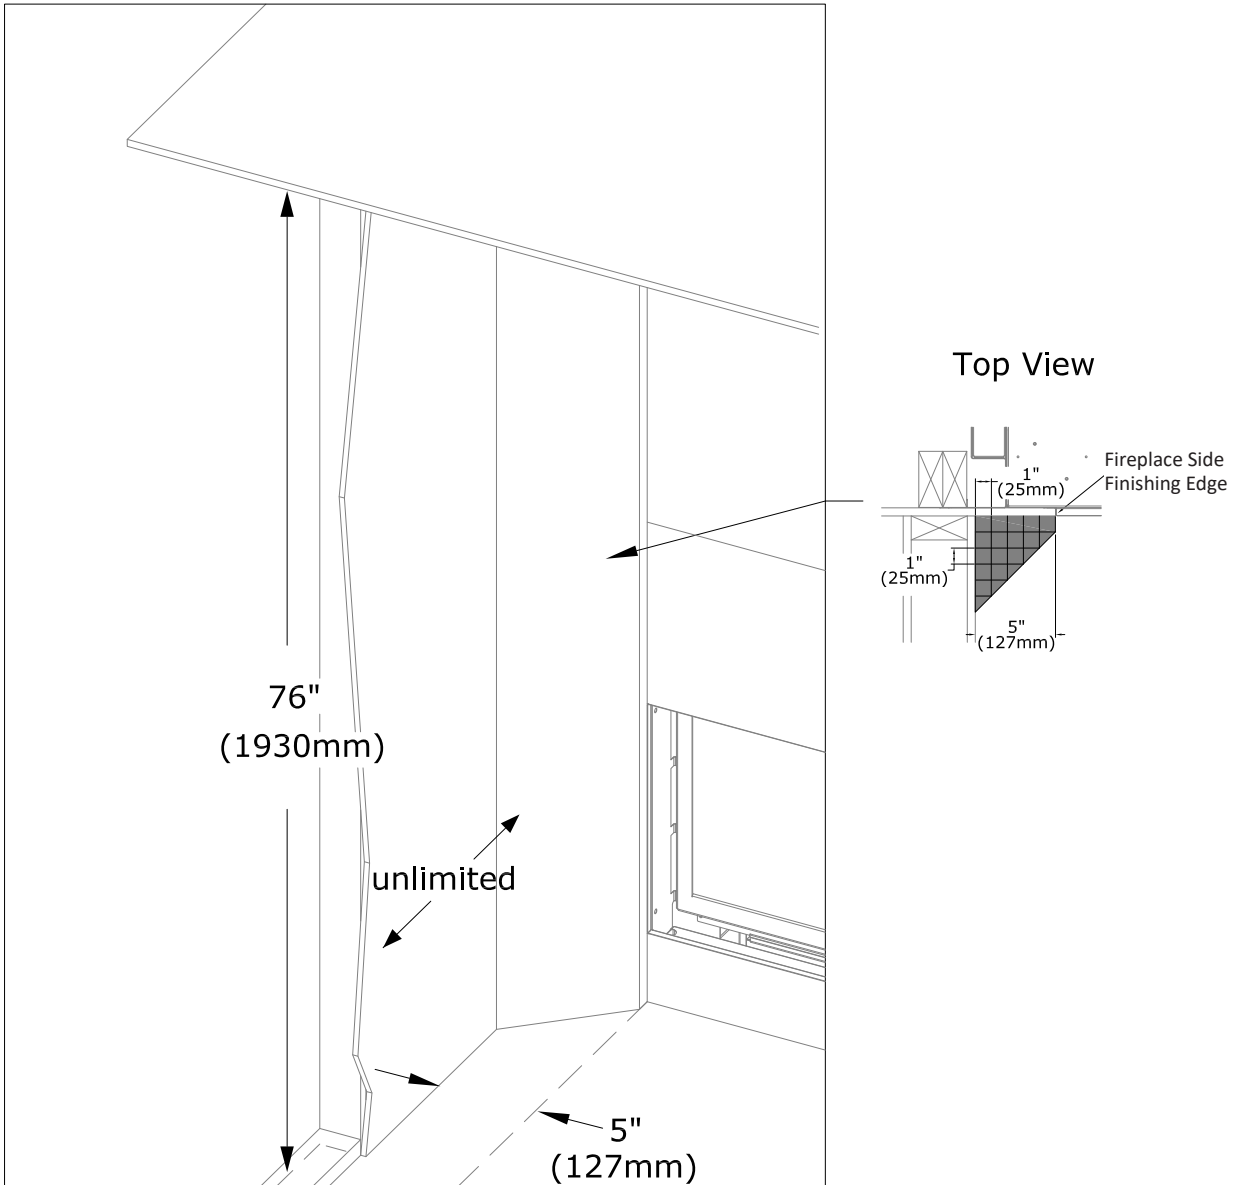

Figure 3.22 - Sidewall Clearances
- Mantel Leg: Follow "Combustible Sidewall Clearance" below. See Figure 3.22.
- Combustible Sidewall Clearance: The adjacent 1" (25mm) combustible sidewall trim projection can start at 0" (0mm) from the fireplace side finishing edge. After the first 5" (127mm) combustible sidewall trim projection from the fireplace side finishing edge, the combustible sidewall projection is unlimited. See Figure 3.22.
- Figure 3.22 shows the projection of a combustible adjacent 1" (25mm) combustible sidewall trim projection starting at 0" (0mm) from the fireplace side finishing edge. After the first 5" (127mm) combustible sidewall trim projection from the fireplace side finishing edge, the combustible sidewall projection is unlimited. If you are using an optional surround on the fireplace opening please provide the necessary clearance. For more information see Section 3.1.1.